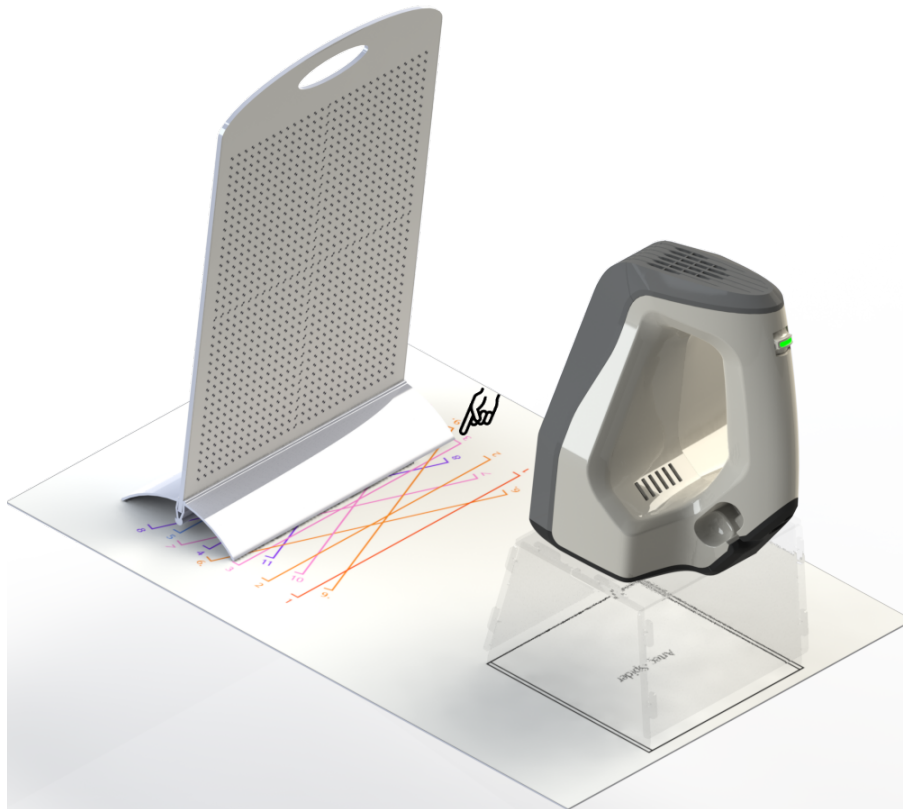

Figure 157: Calibration rig, pattern and scanner stand with Artec Spider.
4. Set the calibration rig on the pattern, turning its marker side toward the scanner as Figure 157 shows.